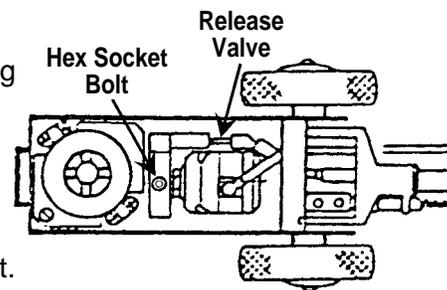

Figure 2
2. Loosen the hex socket bolt one-half turn. See Figure 2.